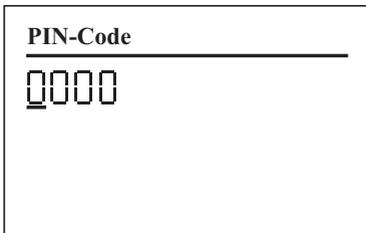

Fig. 6: Vista **PIN-Code**
1. Abra a vista **PIN-Code** (fig. 6).